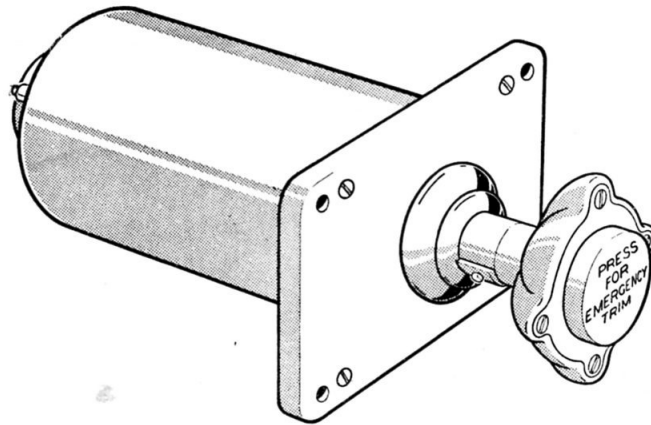

Fig. 1. Trim switch, Western, Type TS 101
1. The trim switch, Type TS101, Mk. 14 (fig. 1) is used for switching the aileron, elevator and rudder trimming actuators on